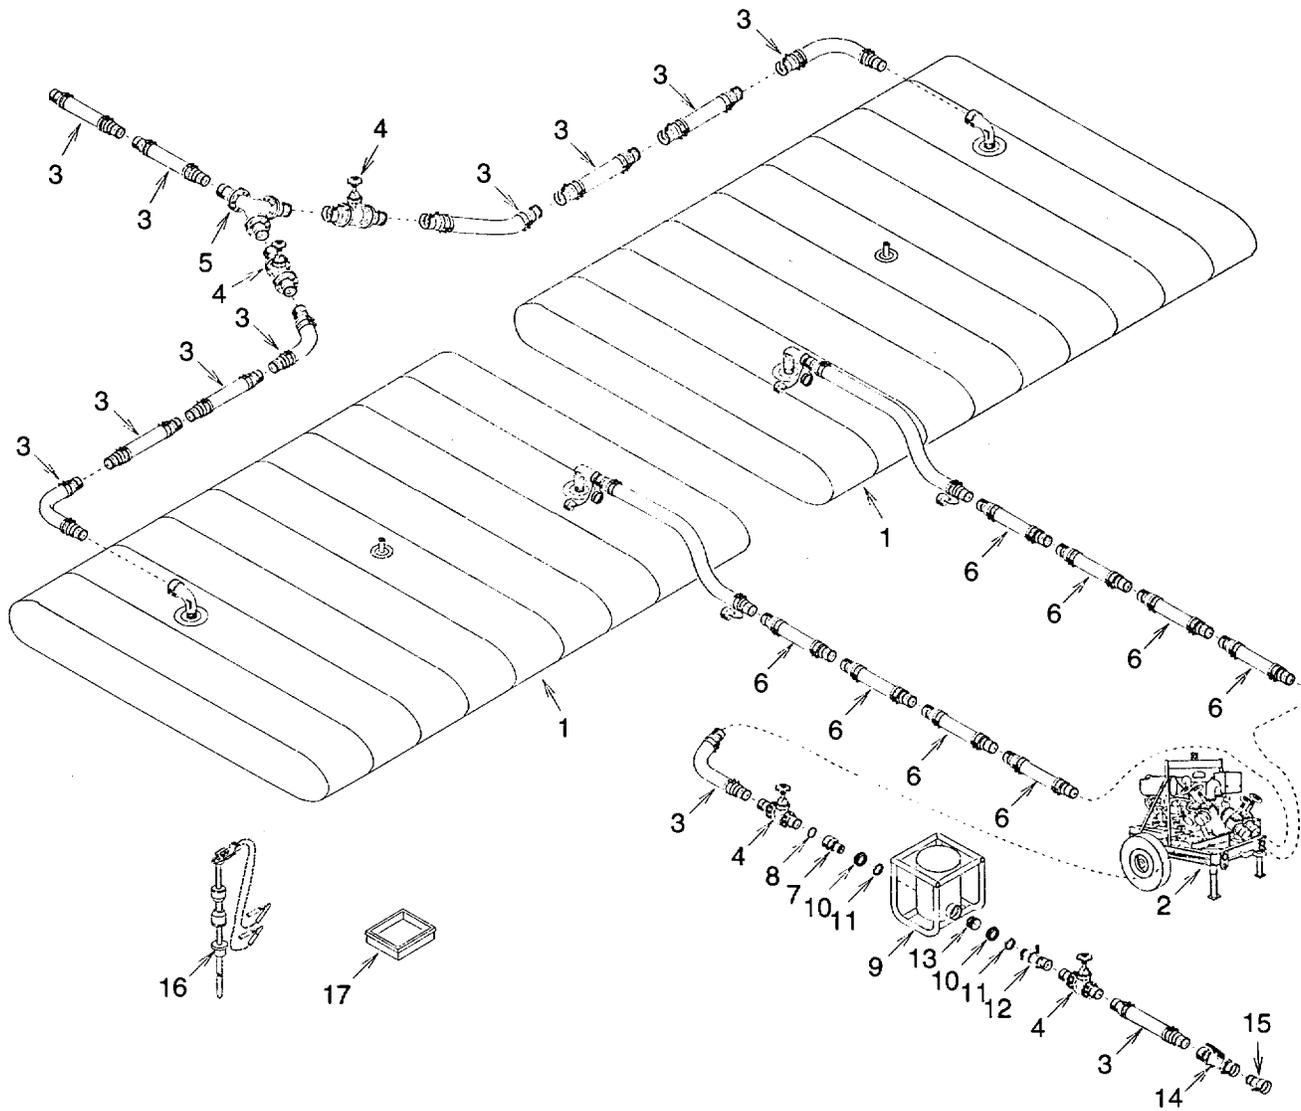

Figure 4-12. 50,000 Gallon Tank TPT Optional Configuration
- b. Locate and install 2 each 50,000 gallon collapsible fabric tanks (1) (see figure 4-12). Be sure that elbows, hoses, and valves supplied with tanks are installed.